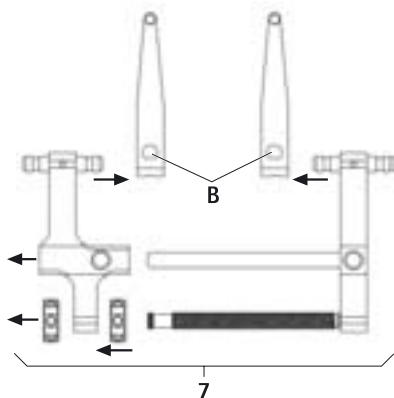

Fig. 2
- To dismount distractor **7** with the distraction blades, see Fig. 2: